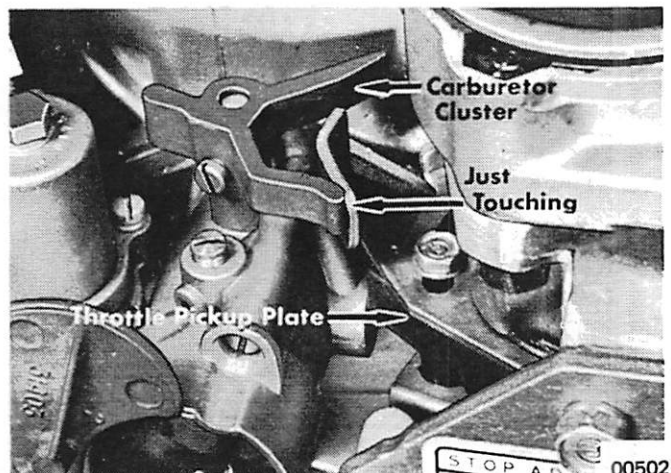

Figure 6. Throttle Pickup Tab Adjustment
- 2) Loosen screws, which hold throttle pickup plate, and adjust if necessary. (Figure 6)